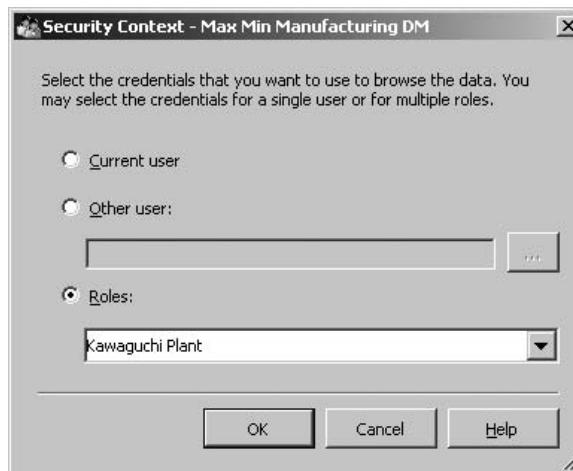

Figure 11-29 The Security Context dialog box
31. Select the Roles radio button. In the Roles drop-down window, check the Kawaguchi Plant Role. (The All Roles item is also checked.) Click OK to exit the drop-down window. The Security Context dialog box appears as shown in Figure 11-29.